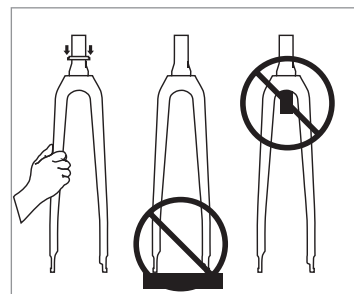

Figure 2
1. Install crown race according to manufacturer's instructions. **▲ WARNING:** Do not rest the fork dropouts on the floor or other hard surface; doing so can damage the fork, making it unsafe to ride. (Fig. 2).